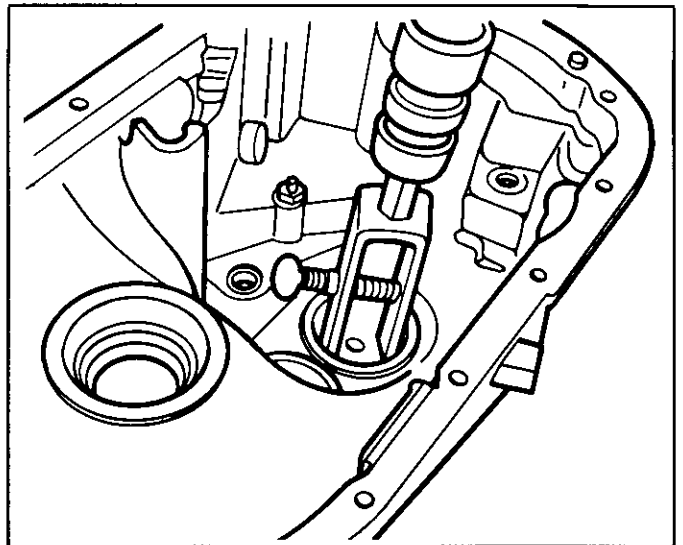

Figure 33 Removing Bearing Cups with J-26941
2. Remove input and output shaft L.H. bearing cups, using J-26941. Turn set screw on J-26941 counterclockwise to insert tool below bearing cup. Turn set screw clockwise to grasp bearing cup. When installing cups, use J-26938 (Figure 33).